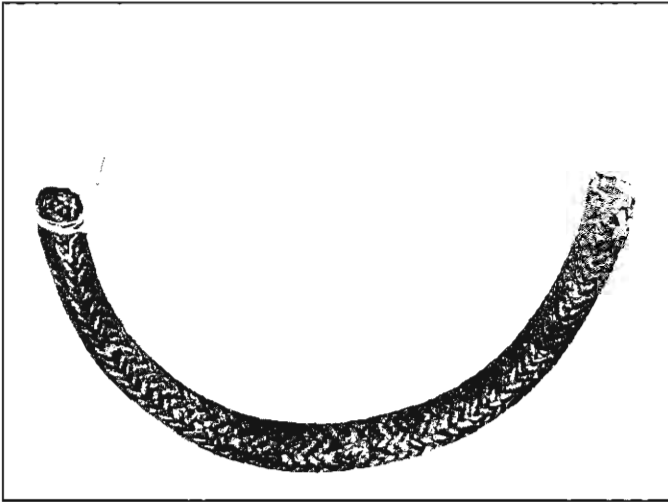

Fig. 48—Wire Attached to Oil Seal
2. Insert a piece of soft wire through upper seal, approximately 1/4" from the end, then wrap the end with wire as shown in Figure 48.